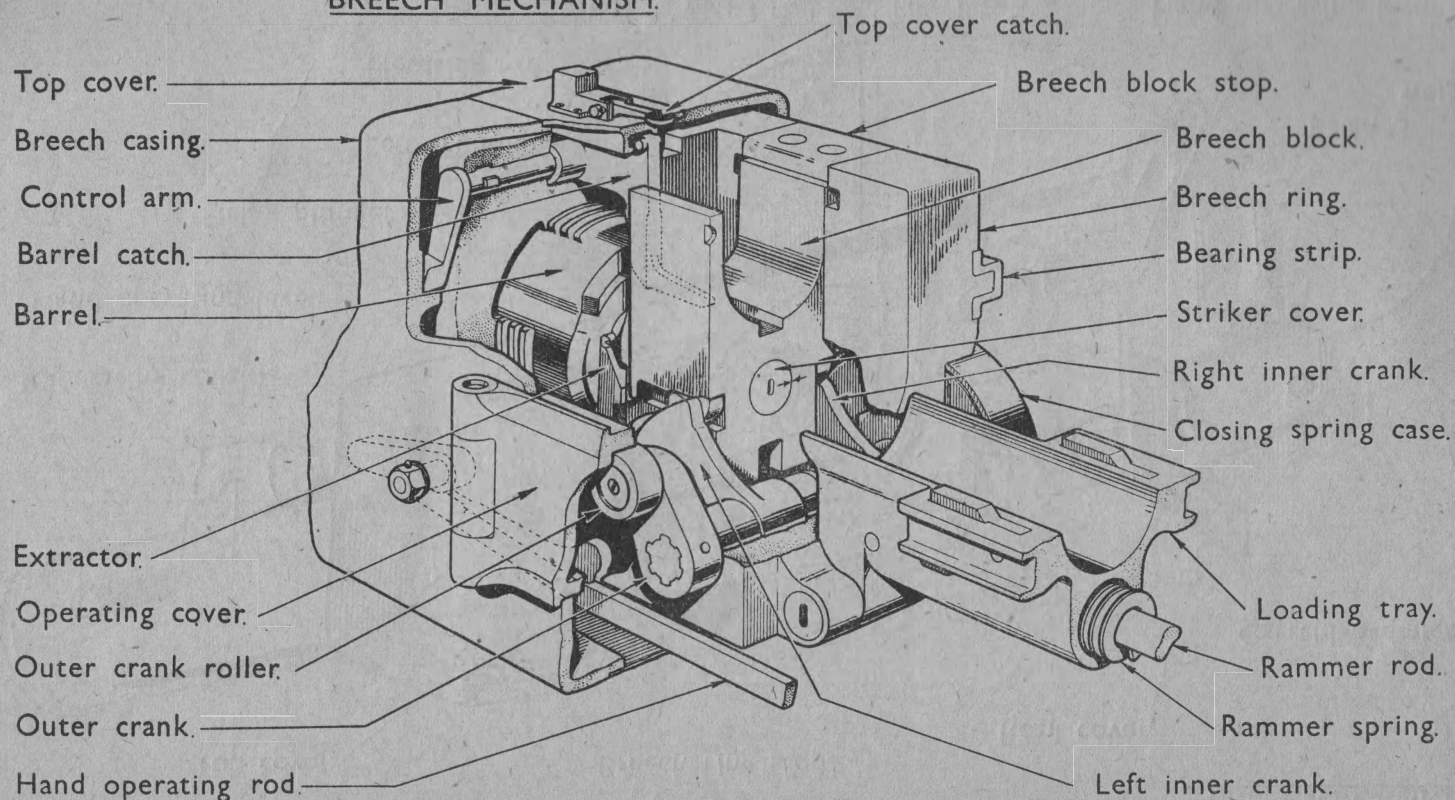

FIG. 3.
5. The **breech mechanism** (Fig. 3), is of the vertical wedge type, the upper side of the block being shaped to form a loading trough. The crank shaft is splined for the greater part of its length from the left end to receive the inner cranks and the outer crank. The right end is splined to receive the closing spring cover and has a longitudinal keyway cut to receive the inner end of the spring. The mechanism is designed to be operated either automatically or by hand.